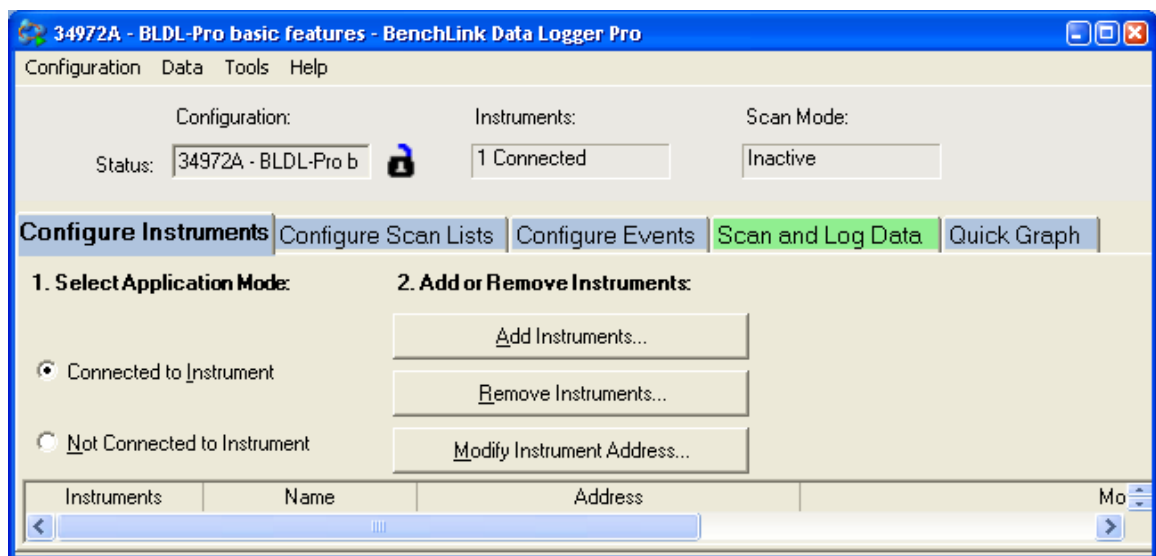

Figure 11 – BLDL-Pro user interface
- The user interface will open (figure 11). NOTE: BLDL-Pro has 5 tabs and BLDL-3 only has 4 tabs. The tabs are identical except BLDL-Pro has an extra tab called **Configure Events** (not used in this section of the lab).